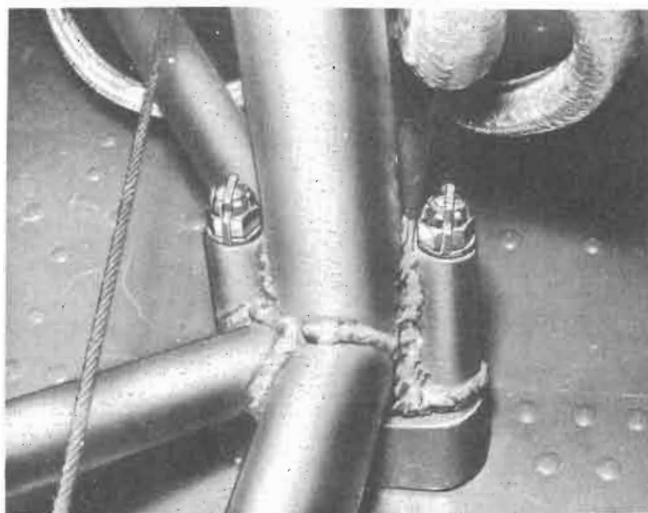

Figure 68 — Attachment of Wing Center Section to Fuselage
(1) CENTER SECTION. — (See figure 68.) — Prior to installation, the center section should be leveled and supported in position with the landing gear down. Place a bar or rigid tubing with hooked ends between the towing lugs at the jacking point of each wheel to prevent the wheels from retracting during the wing installation. The fuselage should be hoisted and then lowered to the center section and attaching points lined up. Care should be exercised when lowering the fuselage to see that all fittings, rods, wire, lines, fuel selector valve control shaft, etc., are either clear or guided into their proper position as required. Make sure that spacers are in position. Secure attachment bolts with nuts, cotters, and washers; adhere to the following procedure: